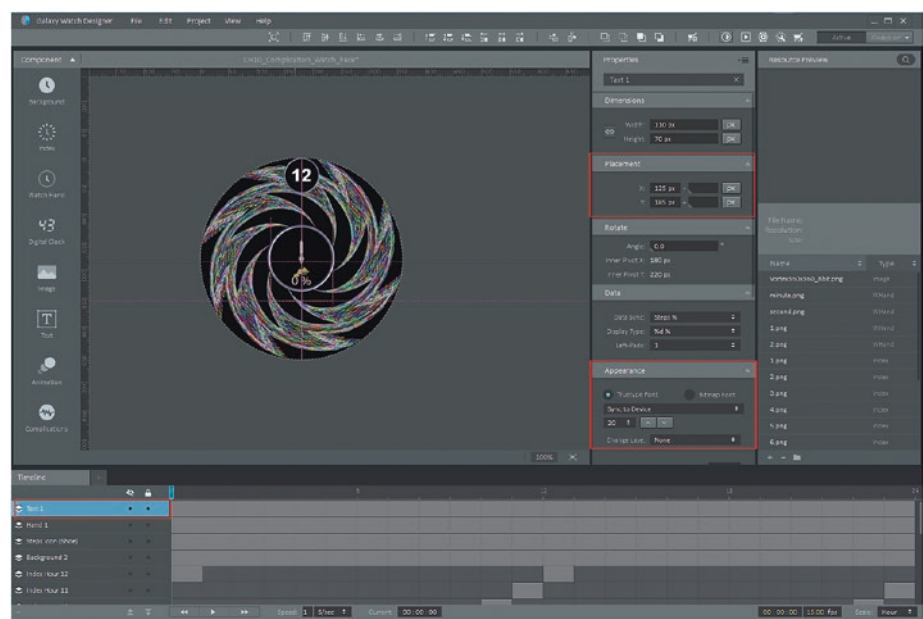

Figure 10-13. Drag Steps % Text under the shoe icon, and set Font Size to 20
Drag the dynamic Text Steps % indicator to the **125, 185 - X, Y** position location underneath the Steps % Shoe Icon, as shown encircled in red in Figure 10-13 along with the Font Size adjustment. As you can see, the 20 pixel font size is still a bit too large to fit comfortably under the Steps % (shoe) icon, so we may adjust this size downward a little later on during the tweaking (adjustment) of this complication design modification. We will also take a look at how to color the static Text markers to better match the gold show, starting at Yellow (0) and getting warmer (orange for 25 and then red for 75). We will leave the dynamic Steps % readout at the bottom of the complication under the shoe at White, to match the Hand color, which we will also leave White.